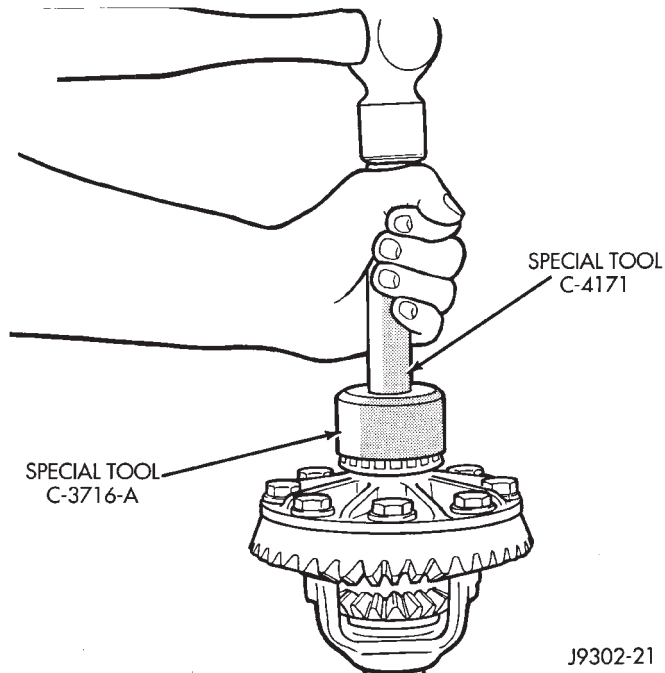

Fig. 39 Differential Side Bearing Installation
- (2) Using Installer C-3716-A and Handle C-4171, install differential side bearings (Fig. 39).
- (3) Install differential in axle housing.